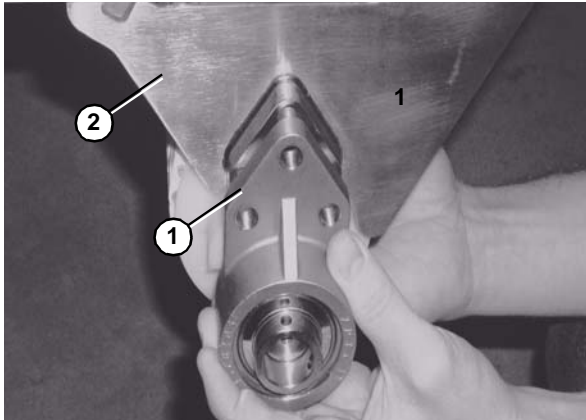

Figure 60
7. Disconnect the 3 hole flange bearing (Figure 60, item 1) from the nose bar drive weldment (Figure 60, item 2).